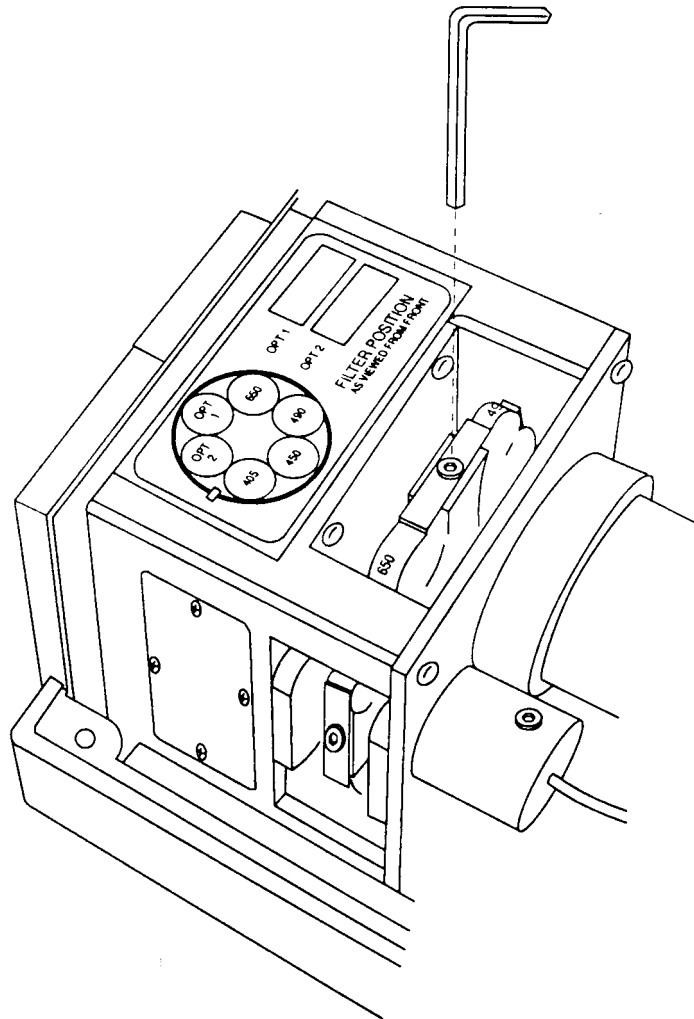

Figure 12: Filter Wheel Housing
- 2) Using a 3/32-inch hex wrench, **LOOSEN** the hex-head screw securing the bracket over the appropriate filter slot (about two full turns). Refer to Figure 12.